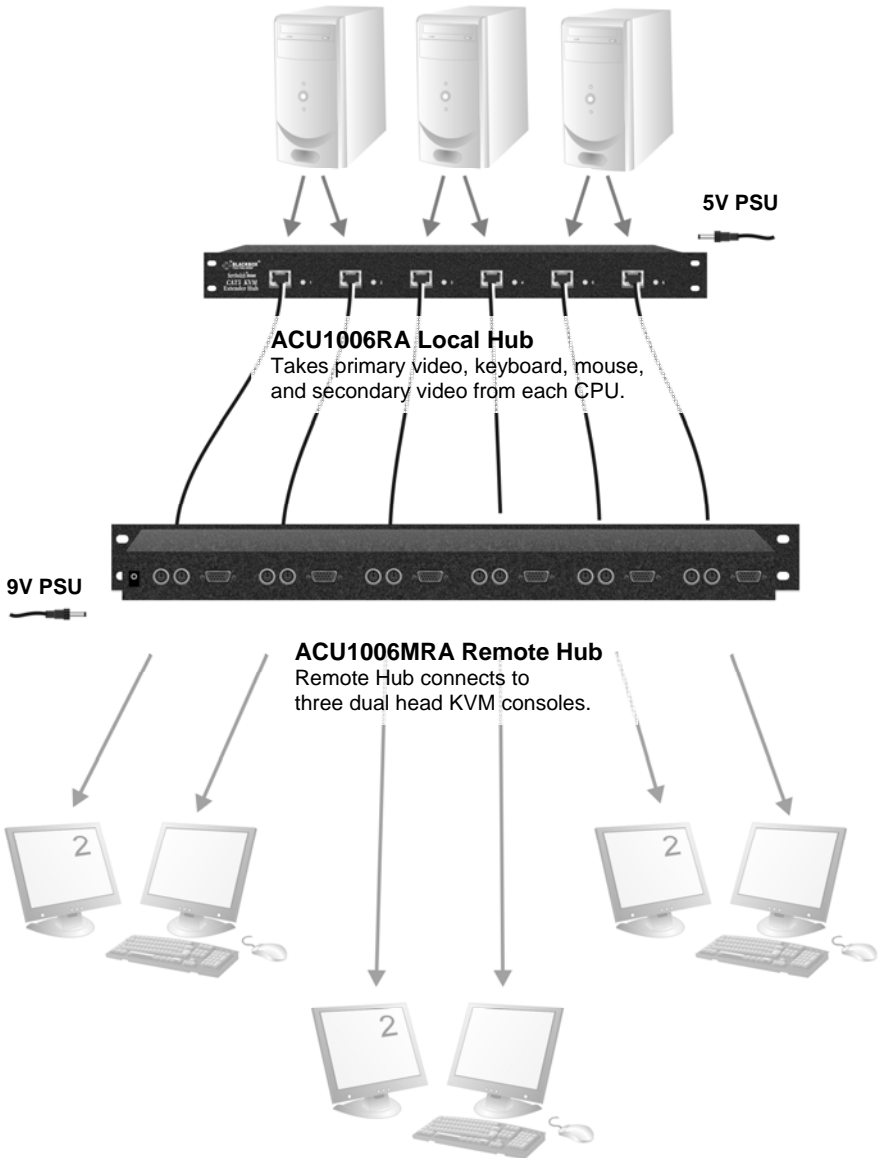

Figure 12
- ACU1006MRA 6-port Micro Remote Hub used with ACU1006RA local rack for 'three desk', dual video extension (Figure 12).